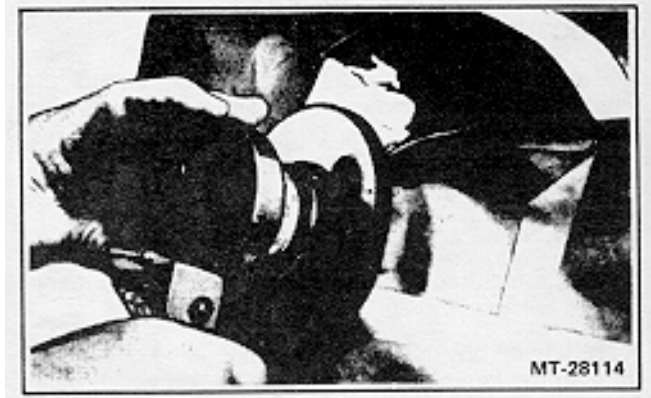

Figure 15 – Sanding Surface
8. Now power-sand the filler with 360 grit sandpaper until it is smooth and even with the original surface (Figure 15)